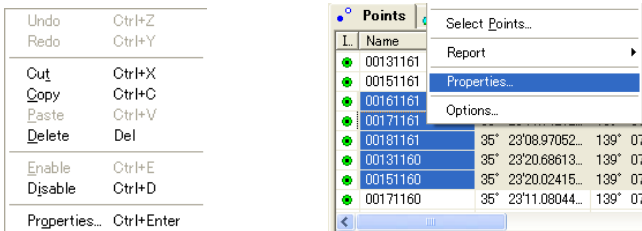

Figure 4-51. Display Properties Dialog Box
To view the *Properties* dialog box for selected single or multiple data types in the Tabular, Map, Occupation, or CAD view (Figure 4-51), do the following:
- Right-click a point/observation/occupation/line on the graphical or tabular view and click **Properties** (Figure 4-51).